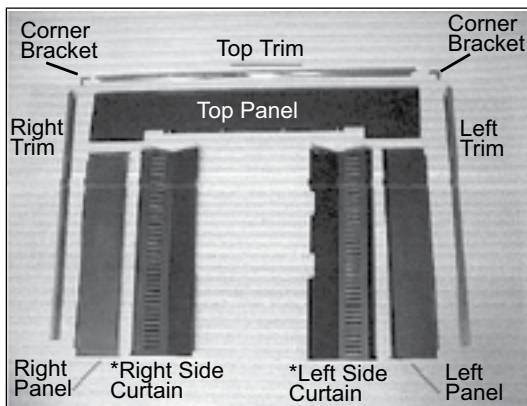

Figure 21.1
1. Unpack and lay out parts face down (flanges up) on a non-abrasive surface as shown in **Figure 21.1**. Install (1) 8-32 x 3/8 inch screw into bottom tab of side panel.